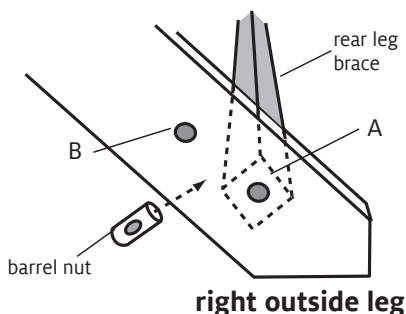

FIGURE 2: OUTSIDE LEG
4. Remove the 1/4-20 x 3" Phillips truss head machine screws and the 1/4-20 barrel nuts holding the rear leg brace from the hole closest to the floor [A] on each outside leg (Figure 2). Remove the rear leg brace; set it aside with the hardware for Step 5.
6. Attach the LO height extender block to the left outside leg: insert a 1/4-20 x 1" Phillips pan head machine screw from the inner side of the leg through its bottom hole (hole [A], Figure 2), then through the hole with the threaded insert on the height extender block (3rd hole from the bottom). Tighten this screw firmly. Repeat this step for the RO height extender and right outside leg.
7. Finish attaching the LO height extender: insert a 1-3/4" Phillips truss head machine screw from the inner side of the leg through the top hole (hole [B], Figure 2), then through the top hole of the height extender block. Secure the screw from the outer side of the height extender block with a 1/4" washer and 1/4-20 lock nut.
8. Re-attach the brake release pedal to the right outside leg with the new 3/8" x 3-1/2" hex bolt, the new 3/8" flat washer, and the hardware you removed in Step 3. Work from the outer side of the loom using the top hole of the right outside leg (hole [B], Figure 2). Attach parts in this order: bolt, washer, brake release pedal, washer, spacer, washer, RO height extender block, right outside leg, washer, lock nut. Tighten the lock nut firmly, then loosen it slightly so the brake release pedal can pivot. Replace the brake cord and arrow peg to their original positions.